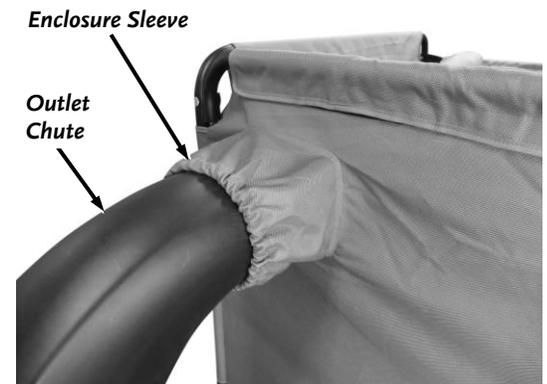
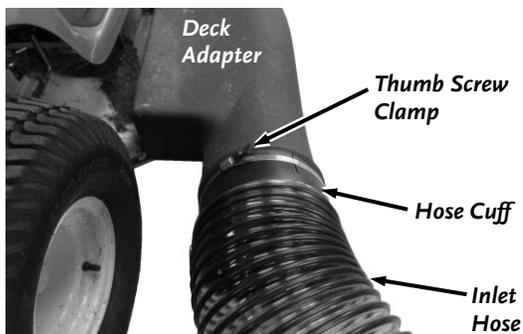

Figure 66
Figure 67
3. Make sure the Collector Base is on the Frame, the Enclosure Sleeve is over the Outlet Chute (Figure 66), and the Inlet Hose Cuff is securely attached to the Deck Adapter on your Tractor (Figure 67).